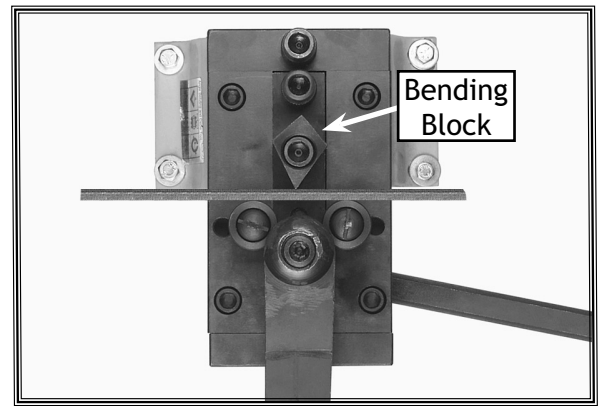
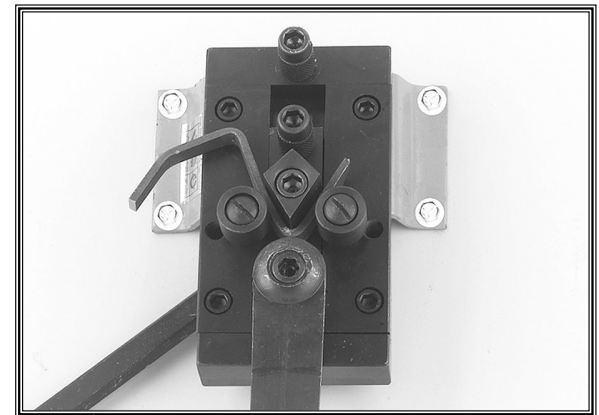
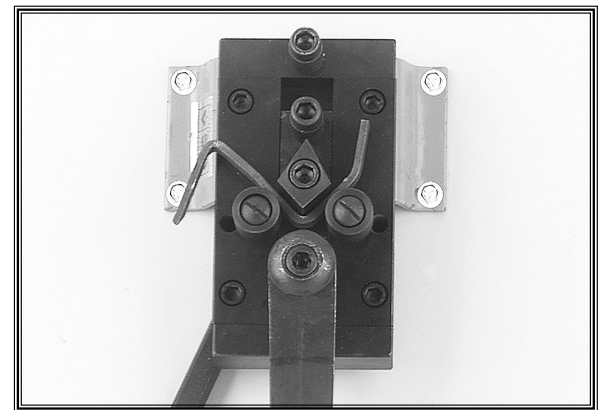

Figure 9. Bending block.
Figure 10. Bending block positioned for a 60° bend.
Figure 11. Bending block positioned for a 90° bend.
Note: The bending block (Figure 9) has two main positions. In one position the block can bend the metal at a minimum angle of 60° (Figure 10), and in the other position the block can bend metal at a minimum angle of 90° (Figure 11).
2. Place the workpiece between the bending block and the guide rollers (Figure 9).